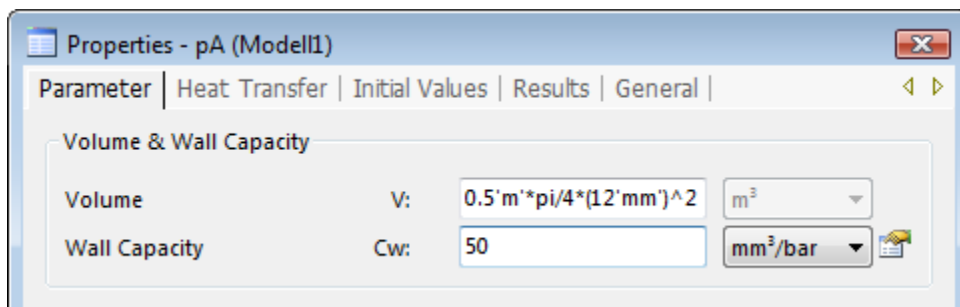

Figure 7: Property Dialog volume vA
- The model at this stage does not include the pipe or hose line connection between control valve and cylinder. To consider at least the enclosed fluid volume and the wall elasticity of the pipes, add two volume elements (Library: Hydraulics.Basic Elements.Volume) between cylinder ports and valve ports. The volume can be calculated within the parameter **V** of the volume Element. A pipe length of **0.5 m**, an inner pipe diameter of **12 mm**, and an estimated wall capacity of **50 mm³/bar** are assumed. The parameter dialog of the volume **vA** is shown in Figure 7.